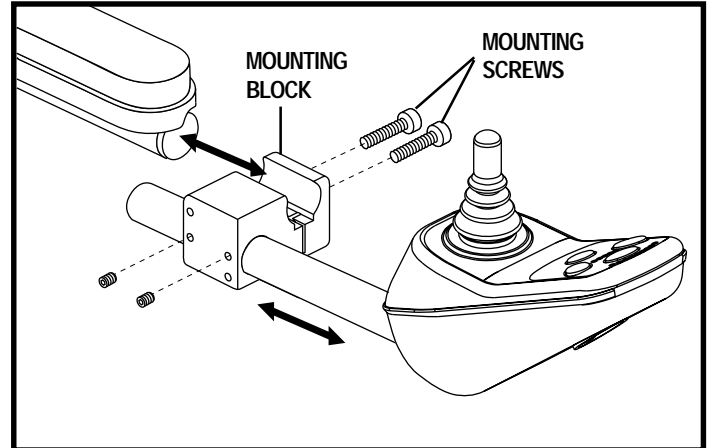

Figure 21. Mounting Block Controller Installation
6. Loosen the mounting screws in the mounting block. See figure 21.